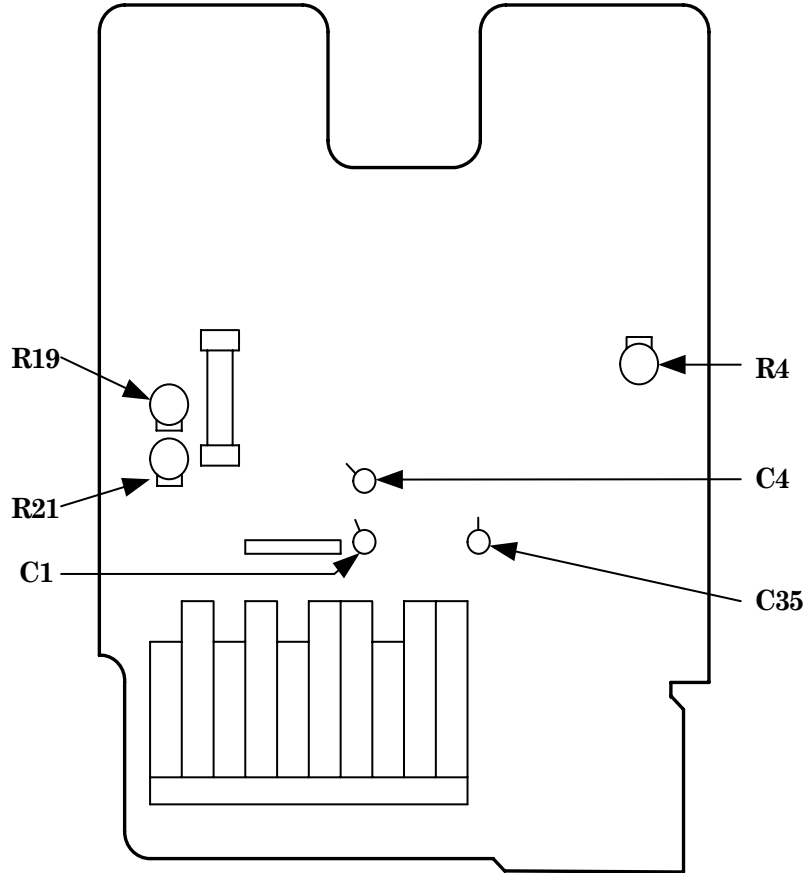

Figure 1. Adjustment locations.
- (1) Set calibrator output to 1.9 V dc. Adjust R4 (DC CAL) (fig. 1) for a TI indication between 1.899 and 1.901 (R).
(2) Set calibrator output to -1.9 V dc. If TI does not indicate between -1.899 and -1.901, adjust R4 (DC CAL) (fig. 1) (R).
(3) Repeat (1) and (2) above until both indications are within limits specified.
- (1) Set calibrator output to standby and press TI **2** range pushbutton.
- (2) Adjust R21 (fig. 1) to center of range.
- (3) Set calibrator output to 1.9 V at 100Hz. Adjust R19 (AC HI) (fig. 1) for a TI indication between 1.899 and 1.901 (R).
- (4) Set calibrator output to 190 mV at 100 Hz. Adjust R21 (AC LO) (fig. 1) for a TI indication between .189 and .191 (R).
- (5) Set calibrator output to 1.9 V at 100 Hz. If TI does not indicate between 1.899 and 1.901, repeat (2) through (4) above.
- (6) Press TI **20** pushbutton and set calibrator output to 19 V at 10 kHz. Adjust C1 (fig. 1) for a TI indication of exactly 19.00 (R).
- (7) Press TI **200** pushbutton and set calibrator output to 110 V at 10 kHz. Adjust C4 (fig. 1) for a TI indication of exactly 110.0 (R).
- (8) Repeat (1) and (3) through (7) above until no further adjustments are required.
- (9) Press TI **1200V AC** pushbutton and set calibrator output to 1000 V at 10 kHz. Adjust C35 (fig. 1) for a TI indication of exactly 1000 (R).